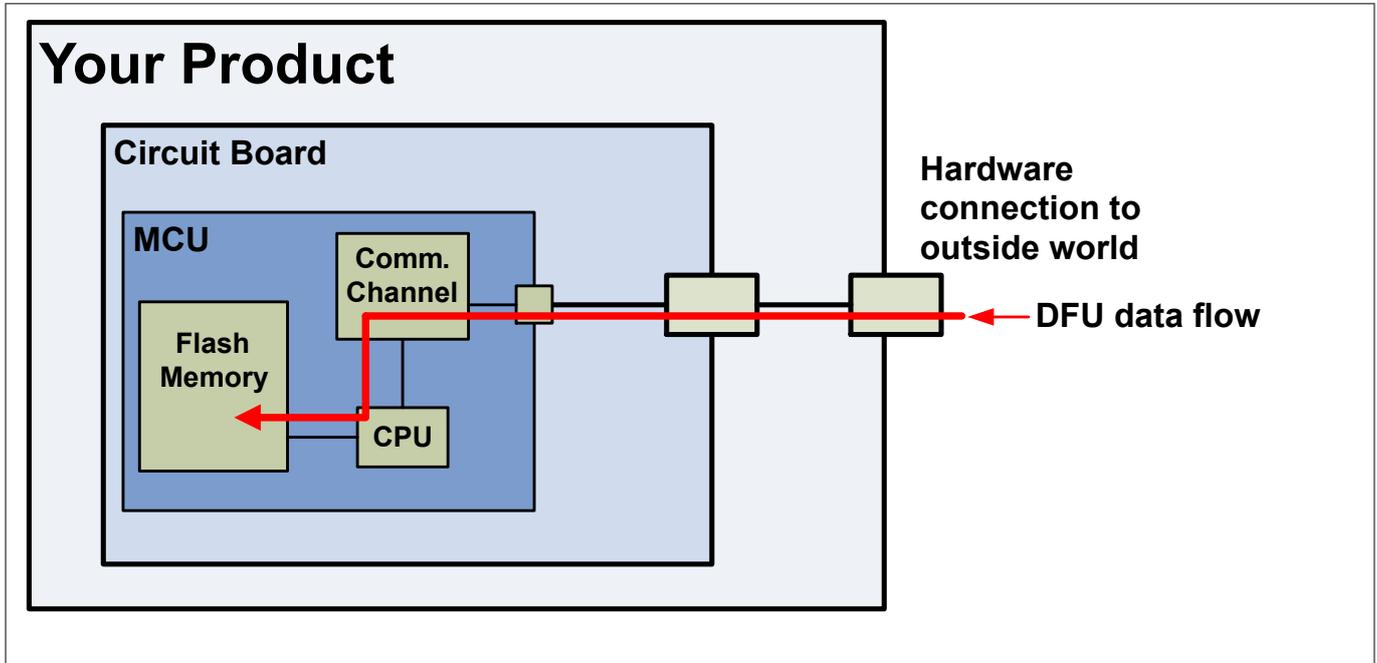
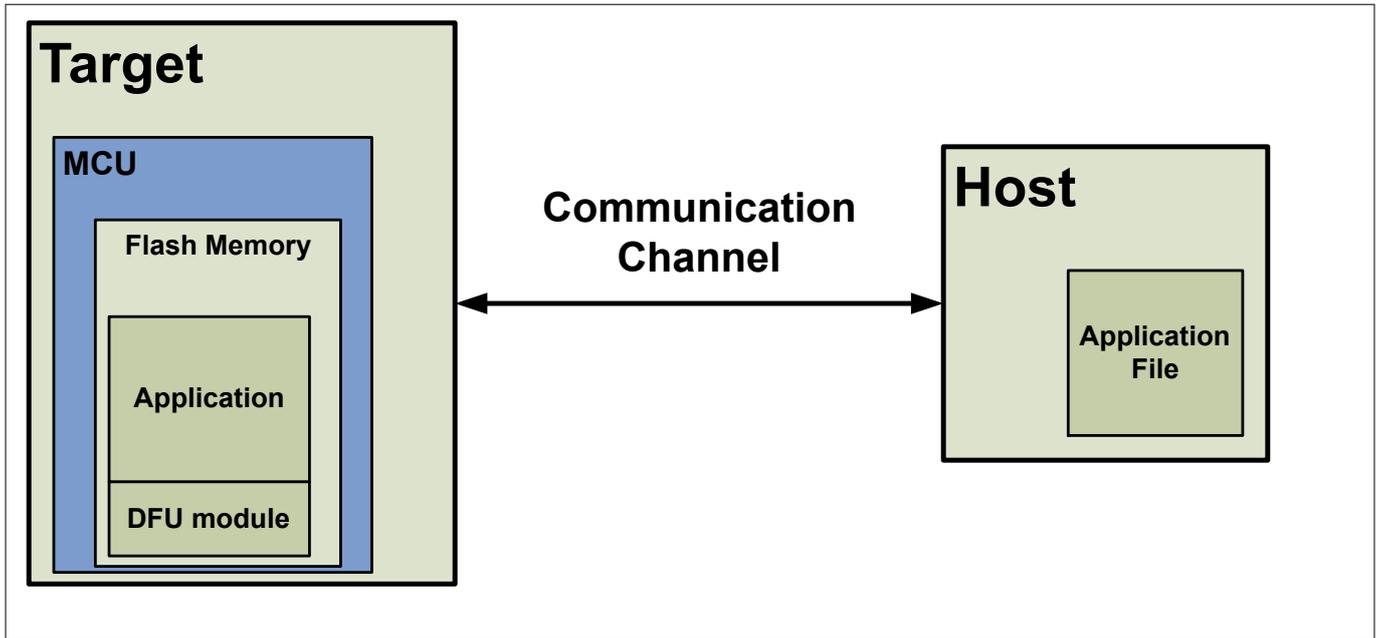

Figure 1 DFU data flow block diagram
Figure 2 Generic DFU system
Device firmware update (DFU) is a common part of MCU system design. DFU makes updating a product’s firmware in the field possible. In a typical product, firmware is stored in an MCU’s flash memory. The MCU is mounted on a printed circuit board (PCB) and embedded in a product, as Figure 1 shows.
Figure 1 implies that the product’s embedded firmware must be able to use the communication port for two different purposes: normal operation and updating flash. The portion of the embedded firmware that knows how to update the flash is called a **DFU module**, or **bootloader**, as Figure 2 shows.
- Device Firmware Update Host Tool: `dfuhtool.exe` in the folder `... \ ModusToolbox_1.0 \ tools \ dfuhtool1.0`. This is an example of the “host” shown in Figure 2. For more information, see Appendix A.